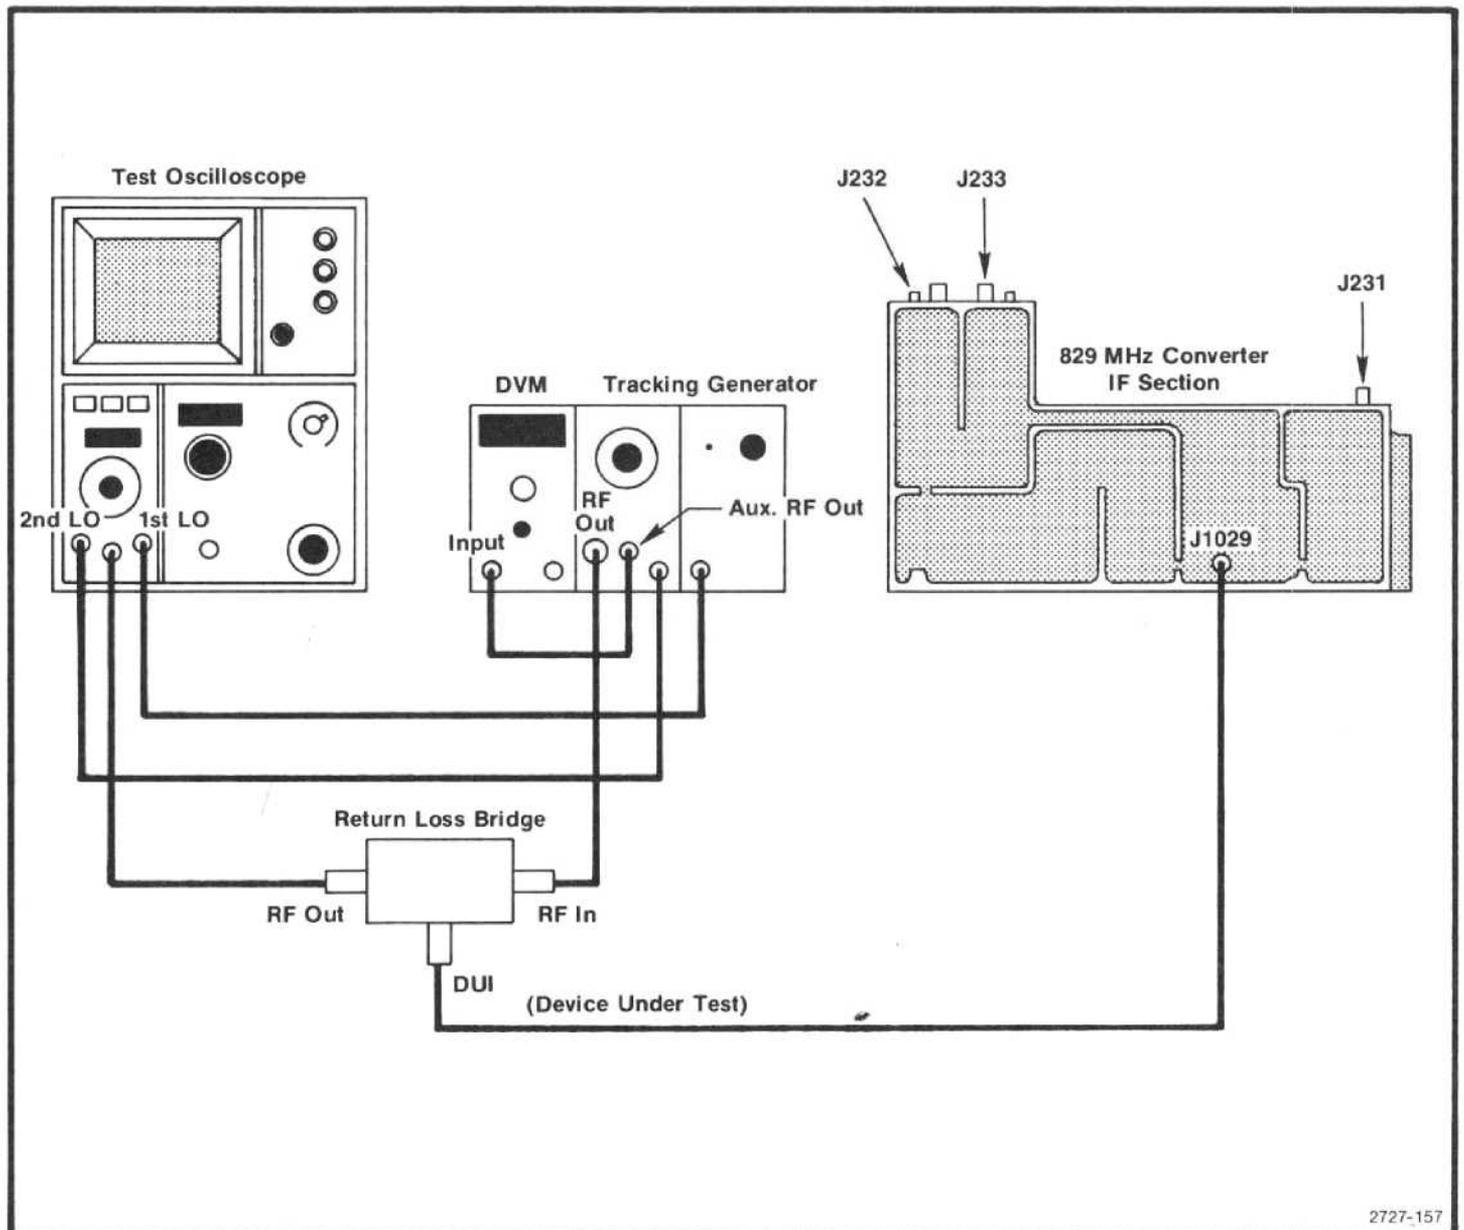

Figure 6-15. Test equipment setup for aligning the 829 MHz filter.
c. Connect the spectrum analyzer, tracking generator, and frequency counter together as a system, with the frequency counter connected to the Auxiliary RF Output of the tracking generator (see Figure 6-15).
d. Connect the spectrum analyzer/tracking generator system through the return loss bridge to the Peltola jack (J1029) on the 829 MHz amplifier board (see Figure 6-15). Reconnect P235 (100 MHz reference signal) and P237 (2182 MHz input) to the LO section of the converter.